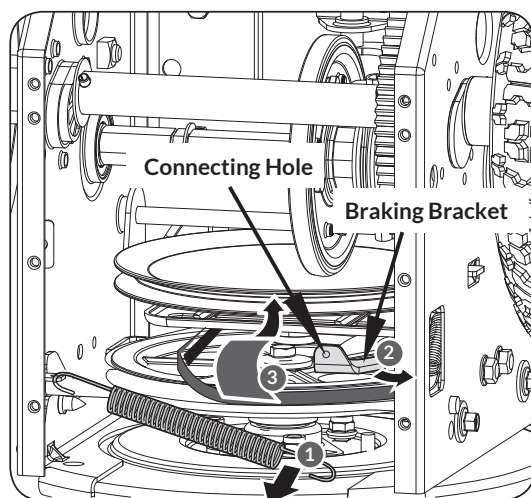

Figure 17d
6. Release the spring from the connecting hole in the braking bracket. Move the braking bracket away from the belt. Remove the belt from around the auger pulley, and slip the belt between the support bracket and the auger pulley. (See **Figure 17d**)